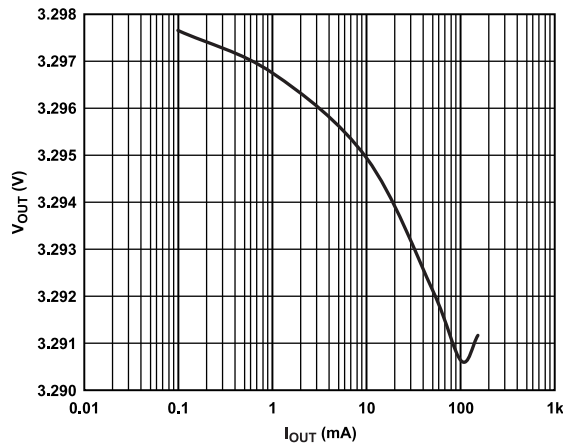

Figure 6. Output Voltage ( $V_{OUT}$ ) vs. Load Current ( $I_{OUT}$ )
- Based on an end-point calculation using 1 mA and 150 mA loads. See Figure 6 for typical load regulation performance for loads less than 1 mA.